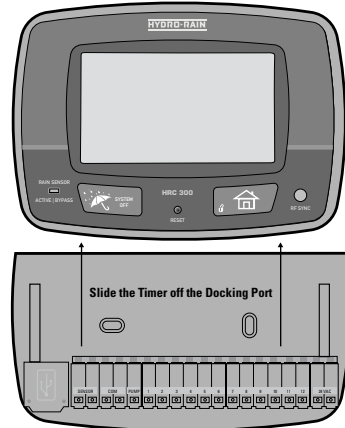

Figure 5: Mounting the Docking Port
- Slide the controller off the docking port. (See Figure 5)